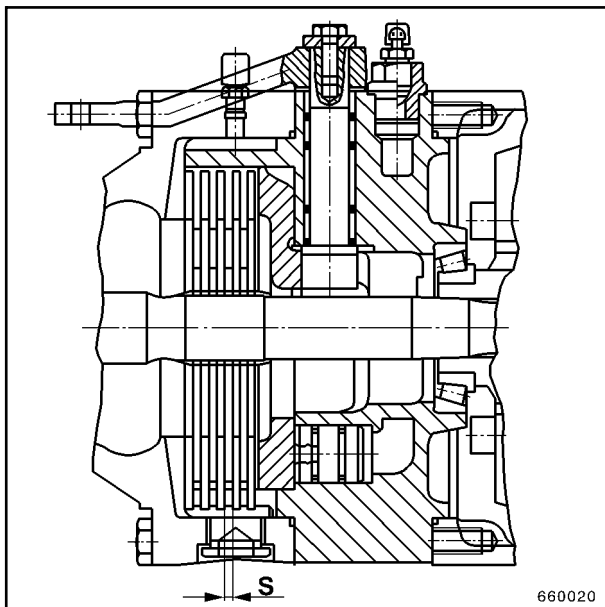

Fig. 10
- Check for wear. The interior disks with friction lining must be replaced if they are worn down to a minimum ( S, Fig. 10) of 4.5 mm.